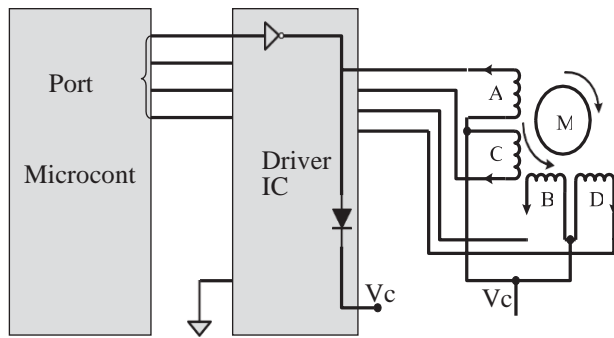

Fig. 2.20 Interfacing of stepper motor through driver circuit
- The following circuit diagram (Fig. 2.20) illustrates the interfacing of a stepper motor through a driver circuit connected to the port pins of a microcontroller/processor.